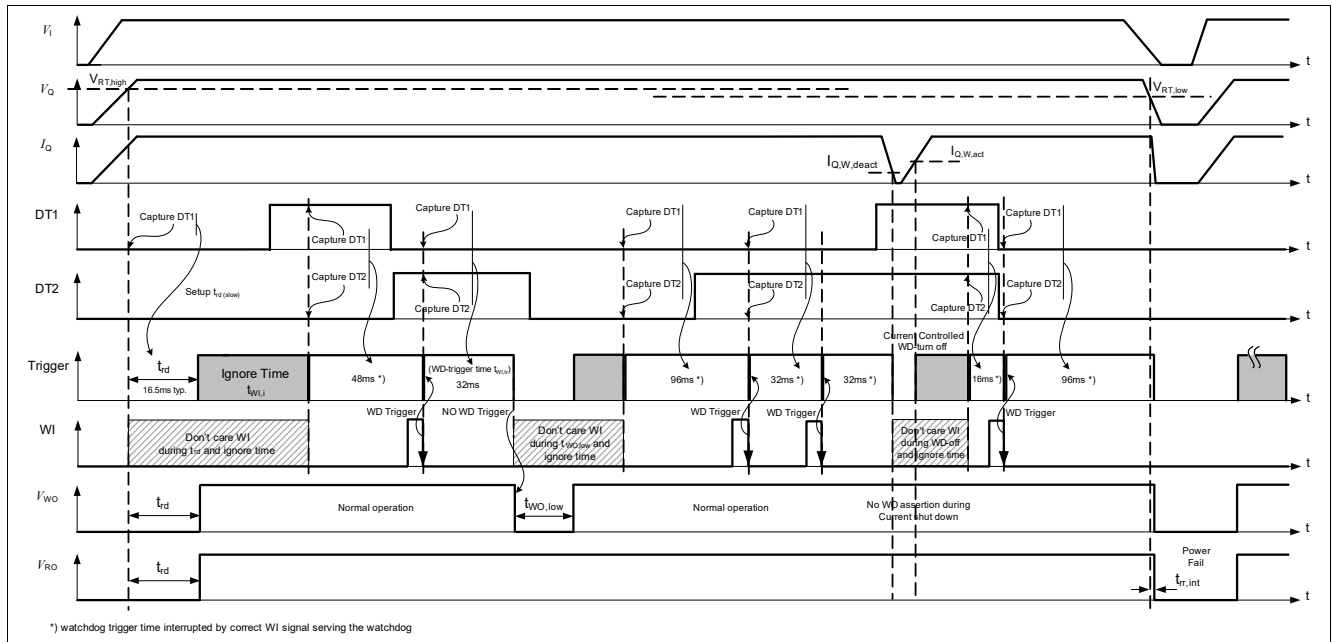

Figure 8 Typical watchdog timing diagram, watchdog and reset modes
Figure 8 shows the state diagram of the watchdog (WD) and the mode selection. After power-on, the reset output signal at the “RO” pin (microcontroller reset) is kept LOW for the reset delay time t_{rd} . With the LOW to HIGH transition of the signal at “WO” the device starts the watchdog ignore time $t_{WI,i}$. Next, the WD starts the watchdog trigger time (time frame within a trigger at WI must occur).